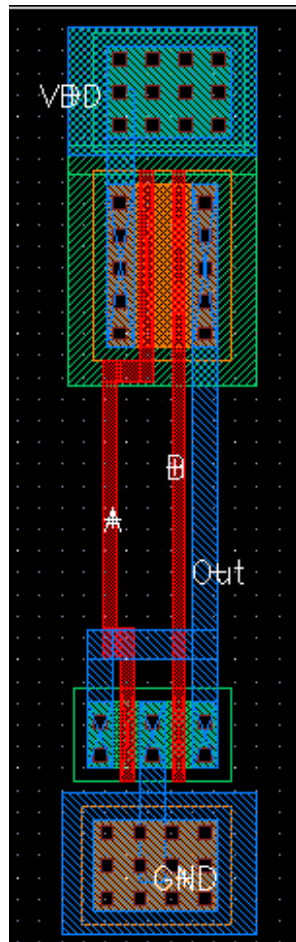

Figure 4. layout of a “NOR” gate
3. Create a new layout cell view following the instructions in Lab 3. Draw the “NOR” gate layout. The final layout should look like figure 4. (There are some important notes in the next page that you need to read before starting the layout). Get your layout DRC clean.
1. If you want to create a multiplied transistor or a fingered transistor as shown in figure 4, you can change the properties of the transistor as it is shown in figure 5 and 6.